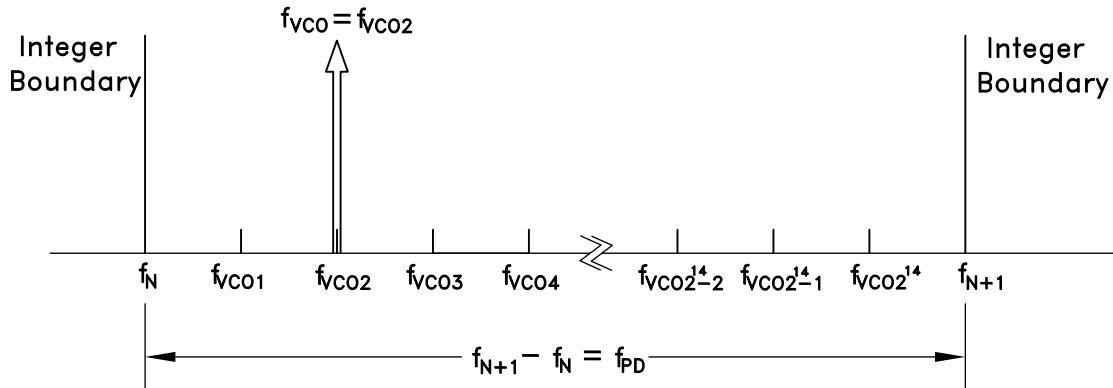

Figure 40. Exact Frequency Tuning
and f_{VCOk} are the channel step frequencies where $0 < k < 2^{24}-1$, As shown in Figure 40.
Some fractional PLLs are able to achieve this by adjusting (shortening) the length of the Phase Accumulator (the denominator or the modulus of the Delta-Sigma modulator) so that the Delta-Sigma modulator phase accumulator repeats at an exact period related to the interval frequency ($f_{VCOk} - f_{VCO(k-1)}$) in Figure 40. Consequently, the shortened accumulator results in more frequent repeating patterns and as a result often leads to spurious emissions at multiples of the repeating pattern period, or at harmonic frequencies of $f_{VCOk} - f_{VCO(k-1)}$. For example, in some applications, these intervals might represent the spacing between radio channels, and the spurious would occur at multiples of the channel spacing.
If it is desirable to have multiple, equally spaced, exact frequency channels that fall within the same interval (ie. $f_N \leq f_{VCO_k} < f_{N+1}$) where f_{VCO_k} is shown in Figure 40 and $1 \leq k \leq 2^{24}$, it is possible to maintain the same integer-N (Reg 03h) and exact frequency register (Reg 0Ch) settings and only update the fractional register (Reg 04h) setting. The Exact Frequency Channel Mode is possible if (EQ 16) is satisfied for at least two equally spaced adjacent frequency channels, i.e. the channel step size.
To configure the HMC1197LP7FE for Exact Frequency Channel Mode, initially and only at the beginning, integer (Reg 03h) and exact frequency (Reg 0Ch) registers need to be programmed for the smallest f_{VCO} frequency (f_{VCO1} in Figure 40), as follows:
1. Calculate and program the integer register setting $\text{Reg 03h} = N_{INT} = \text{floor}(f_{VCO1}/f_{PD})$, where f_{VCO1} is shown in Figure 40 and corresponds to minimum channel VCO frequency. Then the lower integer boundary frequency is given by $f_N = N_{INT} \cdot f_{PD}$.
$\text{Reg04h} = N_{FRAC} = \text{ceil}\left(\frac{2^{24}(f_{VCO_k} - f_N)}{f_{PD}}\right)$ where $f_N = \text{floor}(f_{VCO1}/f_{PD})$, and f_{VCO1} , as shown in Figure 40, represents the smallest channel VCO frequency that is greater than f_N .
4. To change from channel 1 ($f_{VCO1} = 2800.2$ MHz) to channel 2 ($f_{VCO2} = 2800.3$ MHz), only Reg 04h needs to be programmed, as long as all of the desired exact frequencies f_{VCO_k} (Figure 40) fall between the same integer-N boundaries ($f_N < f_{VCO_k} < f_{N+1}$). In that case